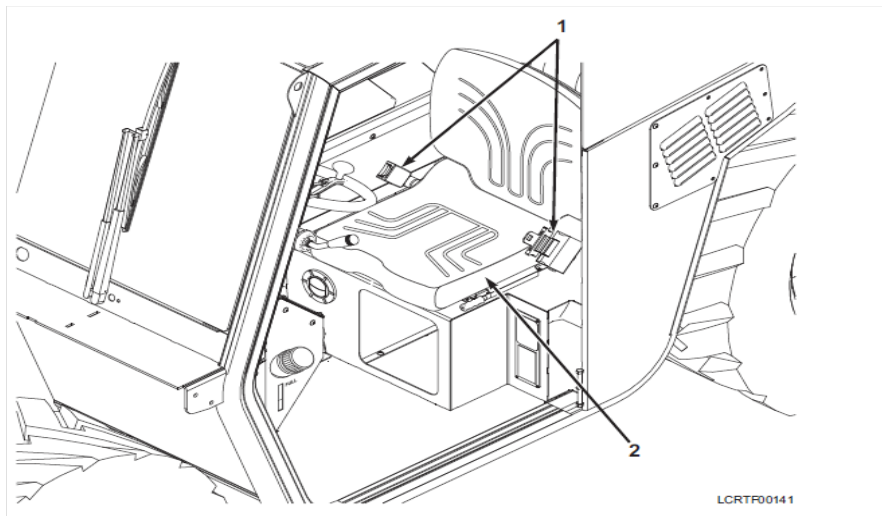

Figure 3-66
- b. Fasten seat belt (see Figure 3-66, Item 1).
- c. Adjust operator seat so that when seat belt is buckled, foot pedals can still be operated (see Figure 3-66, Item 2).